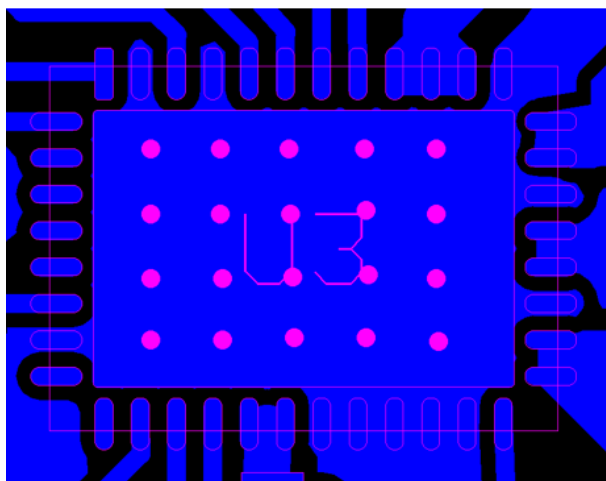

Figure 2-11. MCF831X PCB With Few Vias
| Figure 2-11. MCF831X PCB With Few Vias                       | 7  |
2. MCF831x has Thermal Pad, we need to use MCF831x as much as possible to dissipate the heat through the common. Note it is important to transfer heat to other PCB layers through as many vias as possible. (As shown in Figure 2-11, the PCB on the right is better).and open solder mask in the vias, which help transfer the heat of the MCF831x through the thermal pad to the copper on the PCB. And use multi-layer boards as much as possible to provide more heat dissipation area.